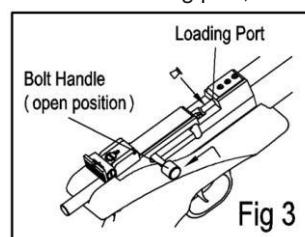

Fig 3
- Cock the bolt to the open position (See Fig 3).